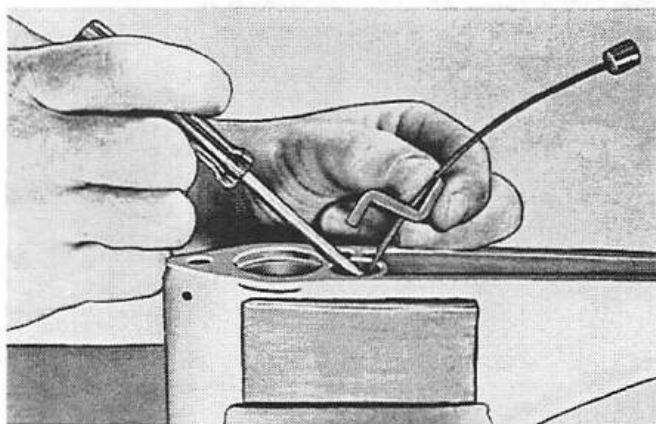

Figure 14. Installing Shift Linkage Assembly in Trip Finger Chamber
1. String the following parts on control cable in order: Trip finger (*check that wide offset of finger is up to fit in slot in housing*), brass slotted trip finger housing, spring and rubber cone seal. Be sure that cone seal is placed on cable with longer counter end in spring. (Figure 14)